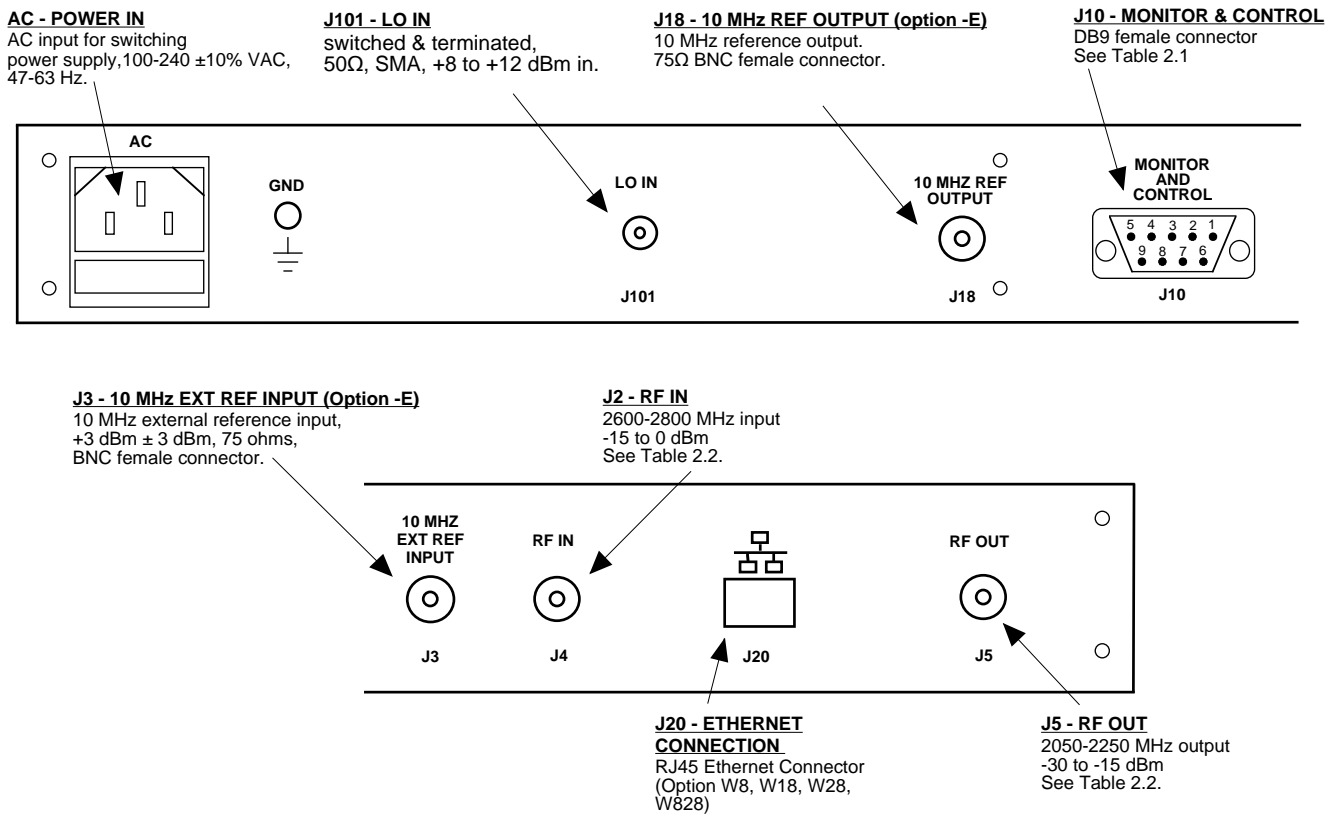

FIGURE 2.2 2083-2813 Rear Panel I/Os
2.2 Rear Panel Input/Output Signals - Figure 2.2 shows the input and output connectors on the rear panel.
1. Connect a -15 dBm to 0 dBm signal to RF IN, J4 (Figure 2.2)